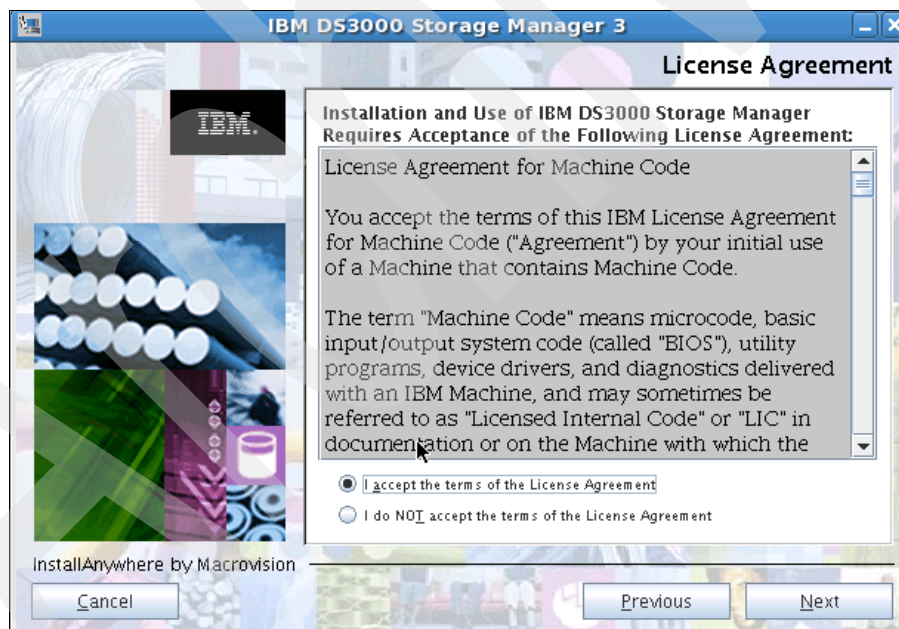

Figure 6-17 License Agreement
6. Read and accept the license agreement. Click **Next** (Figure 6-17).